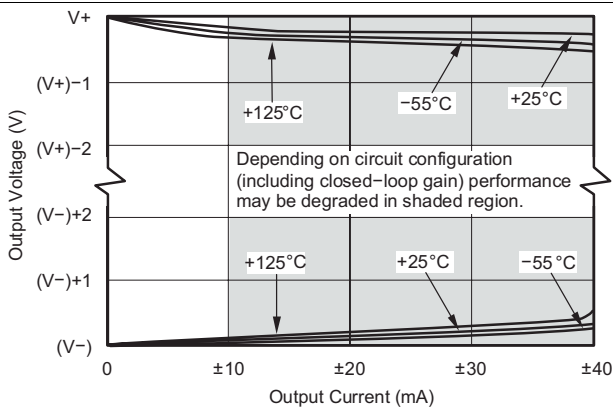
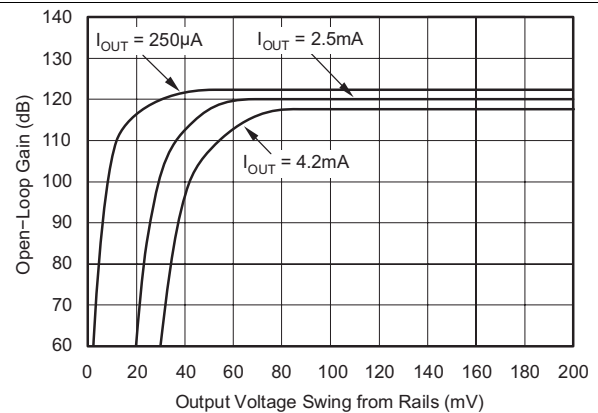

Figure 17. Output Voltage Swing vs Output Current
Figure 18. Open-Loop Gain vs Output Voltage Swing
(5) See Figure 17.
A class AB output stage with common-source transistors achieves rail-to-rail output. For light resistive loads (>10 k Ω), the output voltage swing is typically ten millivolts from the supply rails. With heavier resistive loads (600 Ω to 10 k Ω), the output can swing to within a few tens of millivolts from the supply rails and maintain high open-loop gain. See Figure 17 and Figure 18 for more information.